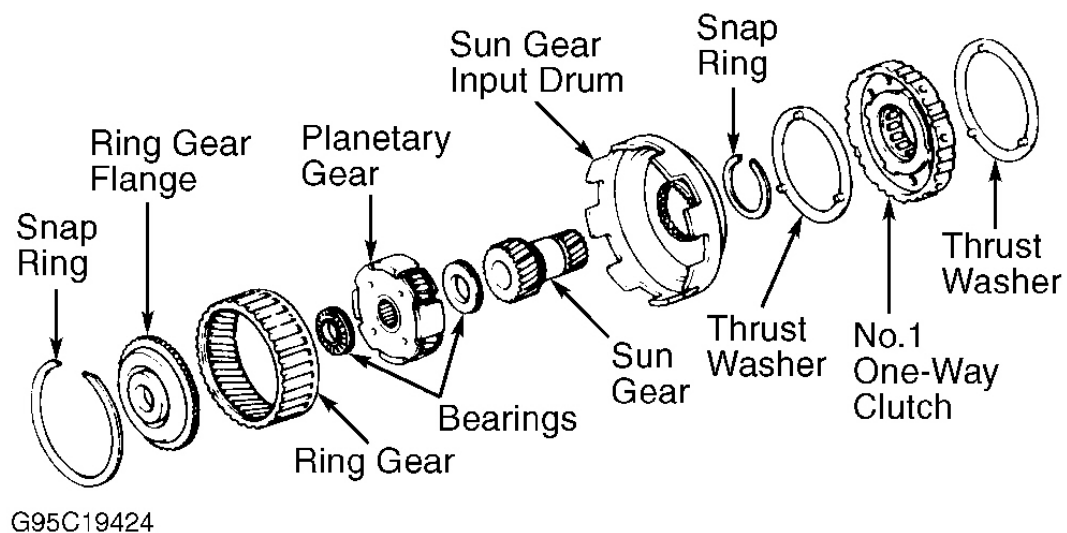

Fig. 25: Exploded View Of Front Planetary Gear
2. While turning hub clockwise, remove No. 1 one-way clutch from sun gear. Remove thrust washer from sun gear input drum. Remove snap ring. Remove sun gear from drum. See **Fig. 25**.
Position flange into ring gear. Using a screwdriver, install snap ring. See **Fig. 25** . Install shaft snap ring on sun gear. Install sun gear input drum on sun gear. Install shaft snap ring. Install thrust washer on sun gear input drum. While turning hub clockwise, slide one-way clutch on sun gear. Recheck operation of one-way clutch.